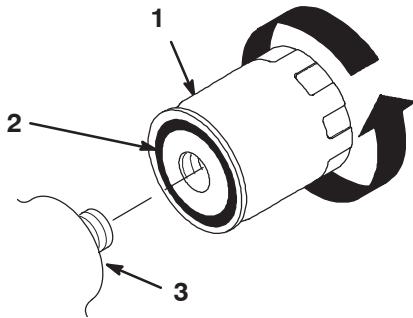

Figure 26
6. Apply a thin coat hydraulic fluid to the rubber gasket on the replacement filter (Fig. 26).
7. Install the replacement hydraulic filter onto the filter adapter. Tighten it clockwise until the rubber gasket contacts the filter adapter, then tighten the filter an additional 1/2 turn (Fig. 26).